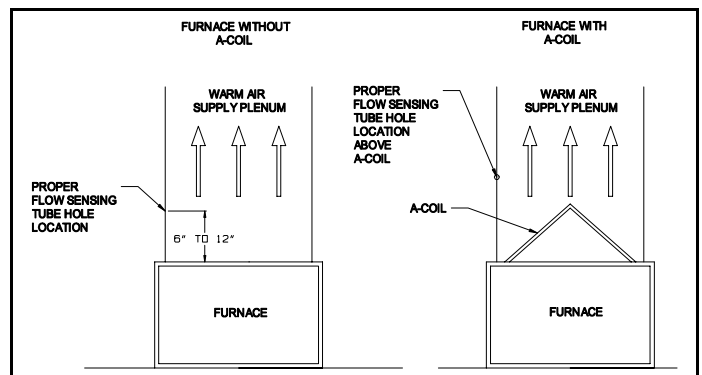

Figure 3
b. If the furnace DOES have an air conditioner "A" coil at the warm air outlet of the furnace; drill a 1/4" hole into the warm air supply plenum high enough above the "A" coil such that it will not contact the "A" coil when installed. Use care when drilling the hole to prevent damaging the "A" coil. (See Figure 3)